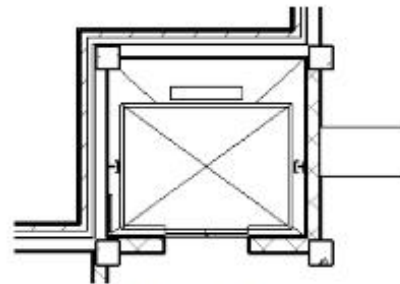

Figure 8–13
6. In the Type Selector, select **M_Elevator-Door-Center: 1050 x 2100mm** and place it in the door, as shown in Figure 8–13.